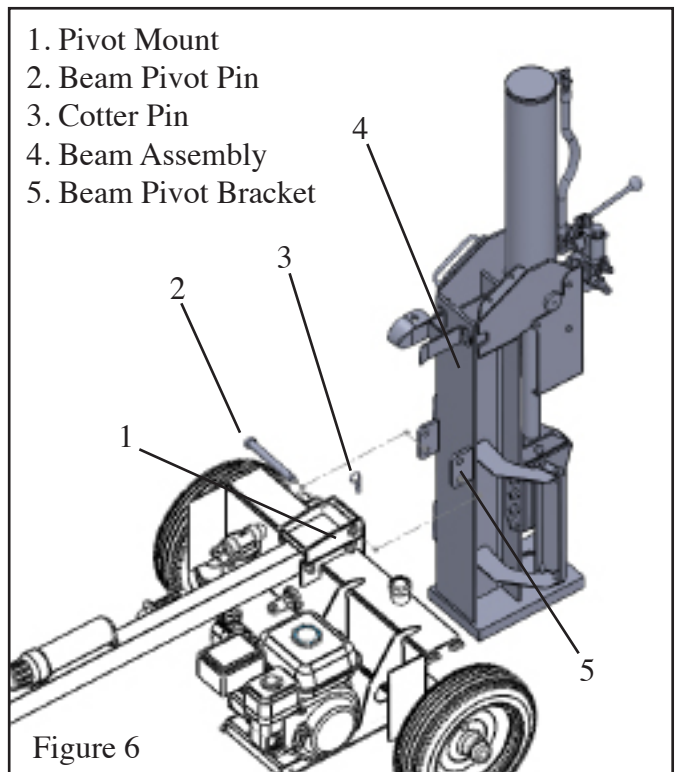

Figure 6
STEP 6 - ATTACHING THE ASSEMBLED BEAM TO THE HYDRAULIC TANK (FIGURE 6)
1. Stand the assembled beam (4) onto its end plate in the vertical position with the pivot bracket (5) facing the pivot mount (1) (Figure 6, next page). Make sure an associate helps hold the beam assembly in place to prevent it from tipping over and inflicting injury.